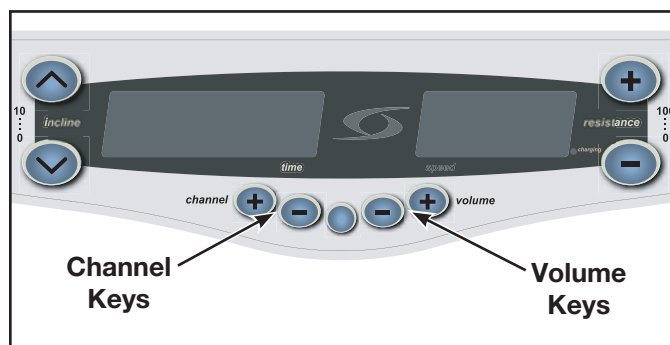

Figure 22
- A. Locate the AC/DC adapter (N) supplied with the monitor and plug into the power cable exiting the base of the Arc.
- B. Plug the power cord (O) into the AC/DC adapter (N). **NOTE:** Power cord (O) varies by country.
- B. Plug the power cord (O) into a wall outlet.
- D. Refer to Chapter 3 of the personal entertainment monitor manual (LT-20191) regarding use of the channel and volume keys located on the lower center of the Arc console. See Figure 22.